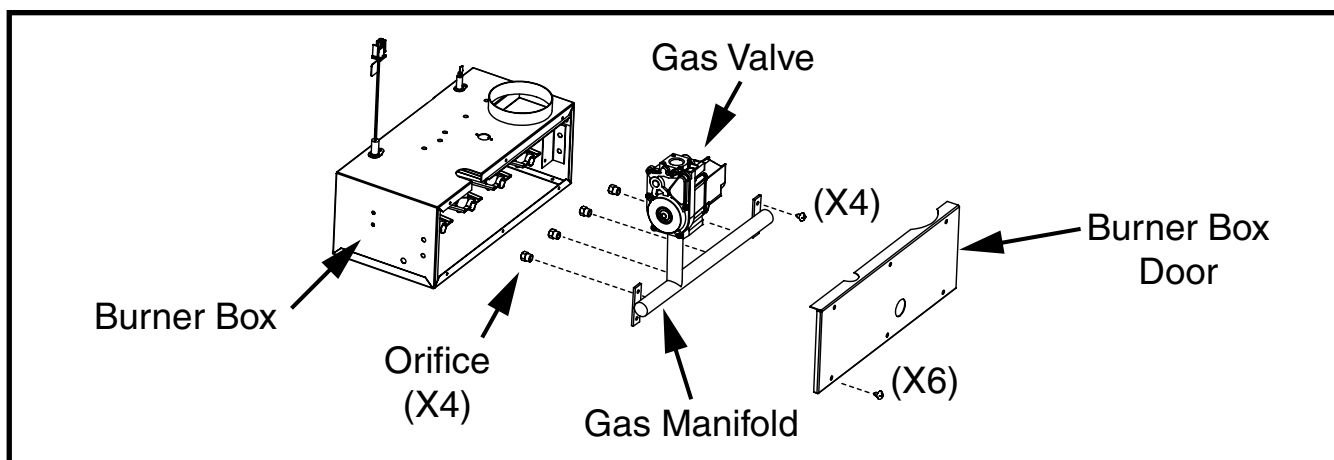

Figure 14. Orifice Removal
5. Turn the gas valve ON/OFF knob to the OFF position. See Figure 14.